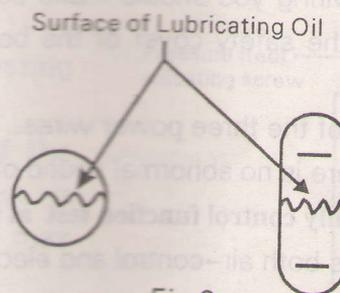

Fig 3
- Keep the surface of the **lubricating oil** between the two red lines (as showed by fig.3)